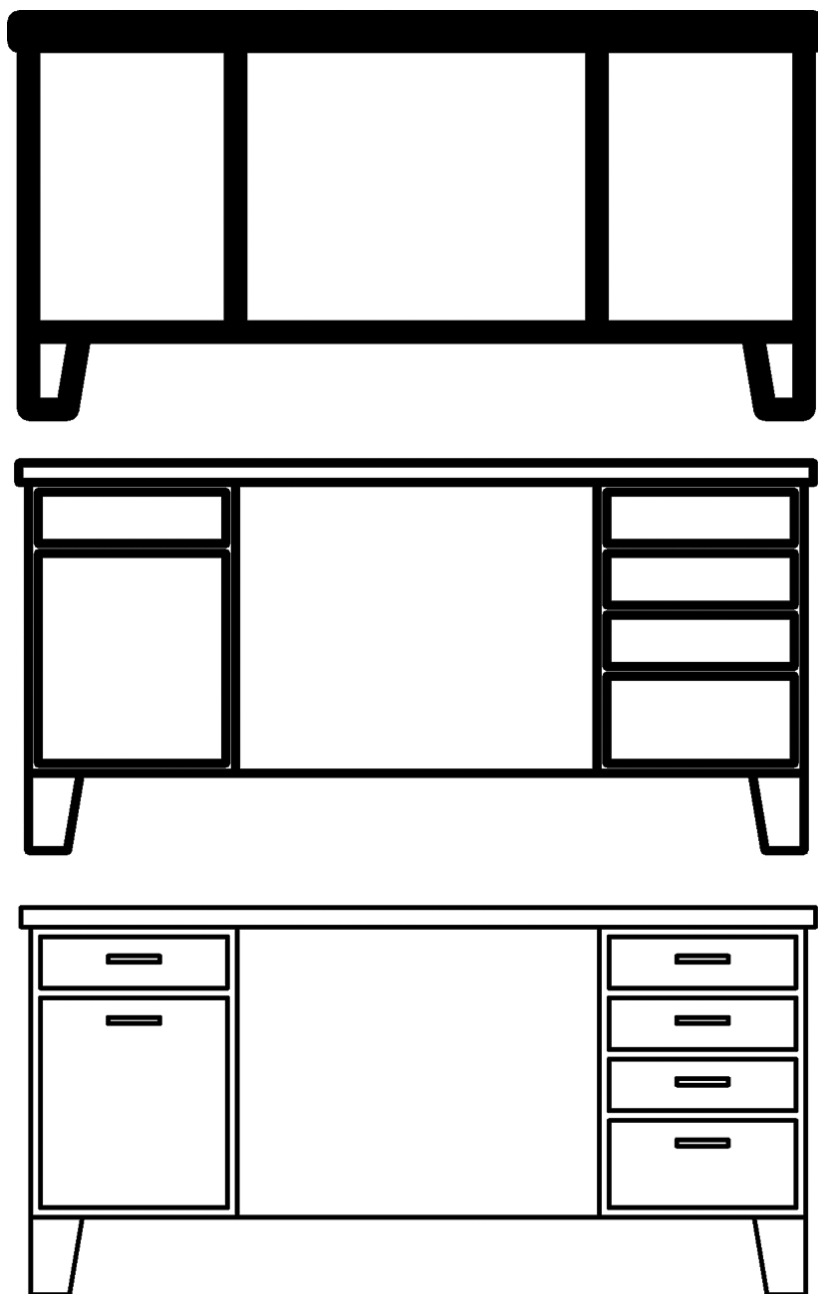

FIGURE 6.8 The level of detail corresponds to scale
5. On the Modify tab of the ribbon, click the Load Into Project button to reload the desk family into the project. The results are shown at the same detail levels as before (Figure 6.8), but legibility has been increased.